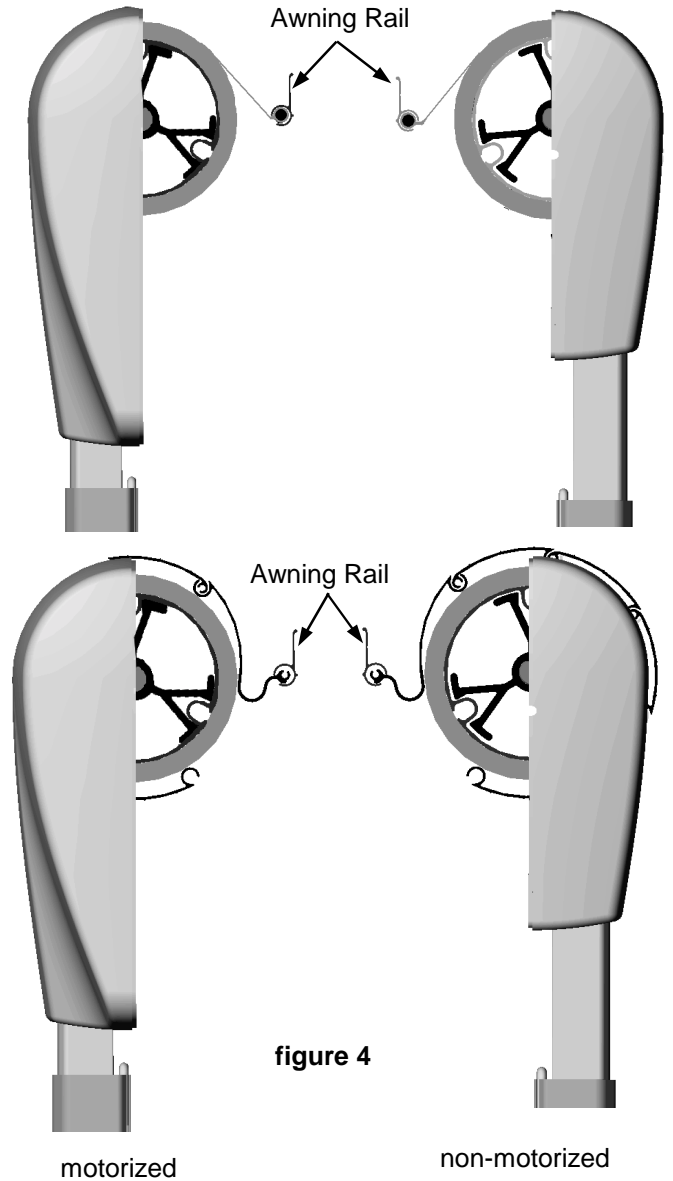

figure 4
A. When the awning assembly is installed on the RV it should closely match (**figure 4**) showing the awning assembly viewed from the motorized and non-motorized sides.